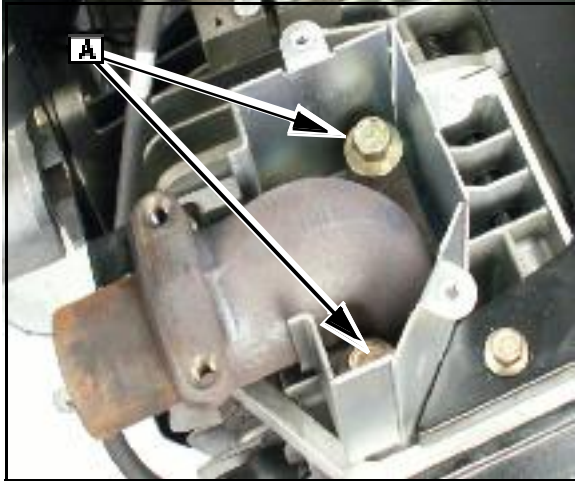

Fig. 26
- Place exhaust manifold elbow on gasket in heat shield and install mounting bolts. ([A] Fig. 26)